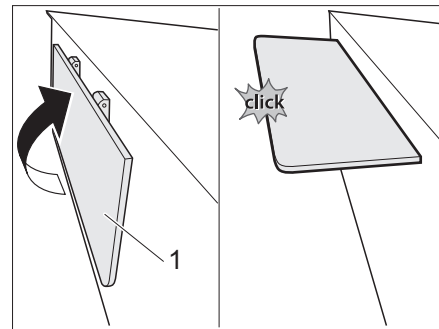

Fig. 111 Position the support edge
- Unlock the support edge (Fig. 111,1) and swivel it upwards until it locks into place.